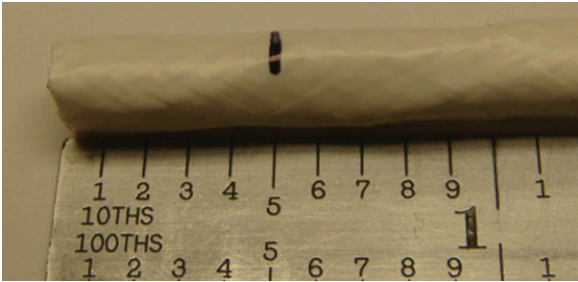

Figure 26: Marking the cable
2. Measure and mark the cable 0.5 inch from the socket end of the cable (Figure 26).